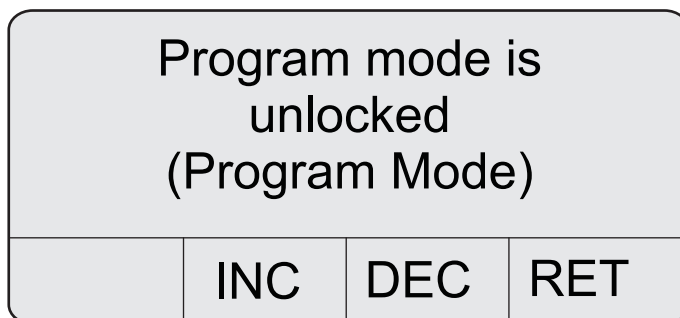

Figure 8 Program mode status screen
2. Press **3 (BAK)** to display the Program mode status screen (refer to Figure 8).